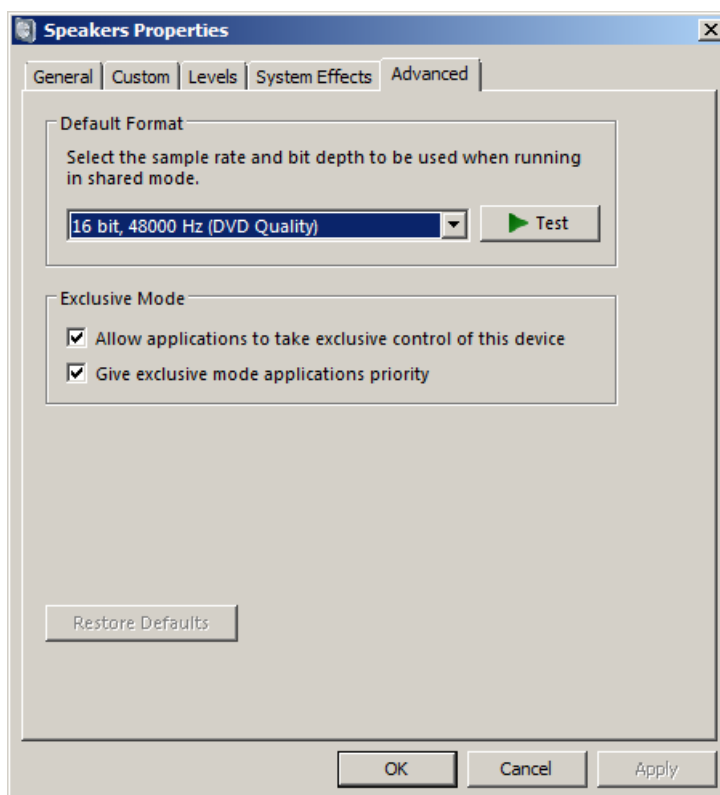

Figure 2.11 Setting the native bit resolution and sampling rate in Vista
- 4) Click on the tab '**Advanced**' to set the channel resolution and a sample rate (as in Fig. 2.11)